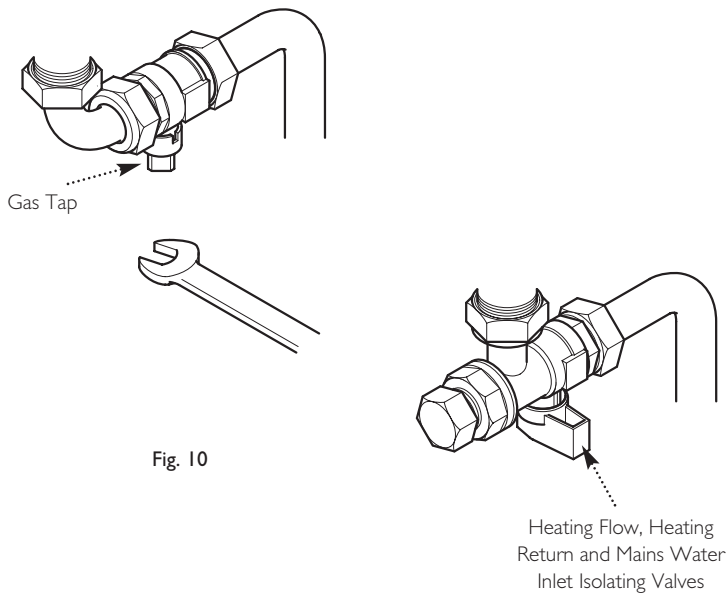

Fig. 10
**Turn off the gas supply at the meter and call your gas supplier immediately.** It is possible to isolate the boiler at the isolating valve (Fig. 10).
1. Using a suitable open ended spanner, turn the square nut on the gas tap through 90° (1/4 turn) to isolate the gas supply at the boiler (Fig. 10).
2. The water isolating valves are positioned under the boiler and can be closed by turning their taps to the right towards the wall (Fig. 10).